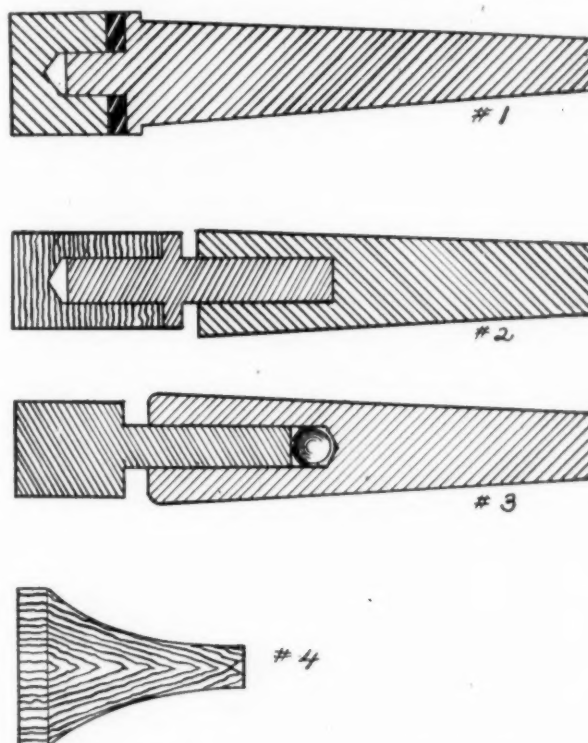

FIG. 2. DIFFERENT STYLES OF SPINNERS CENTERS.
Let us now consider the different styles of the spinner's center shown in the four sketches in Fig. 2. The first (1) sketch shown is a commercial center; the second (2) sketch is due a description because of its more practical qualities and has been the adopted standard style of many expert operators, because this style apparently fulfills all the necessary requirements, and the third (3) is one that is peerless. There are two things that are very necessary for all centers for